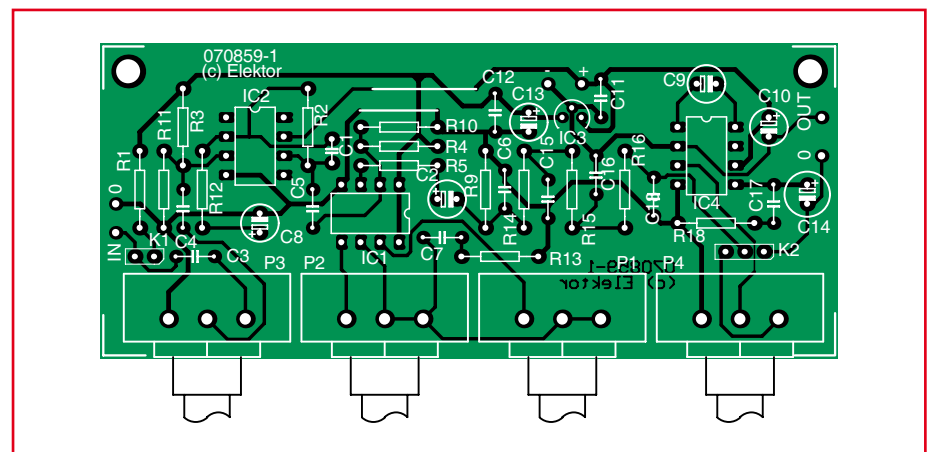

Figure 4. A small PCB has been designed for the voice changer, which makes the construction very easy.
Figure 4 shows the board layout for the voice changer. Populating the board should be simplicity itself, with all components clearly laid out. The controller can be obtained ready-programmed from Elektor Shop as item 070859-41. If you prefer, you could program it yourself (software 070859-11, but make sure you use the correct settings for programming the chip, as shown in the inset).